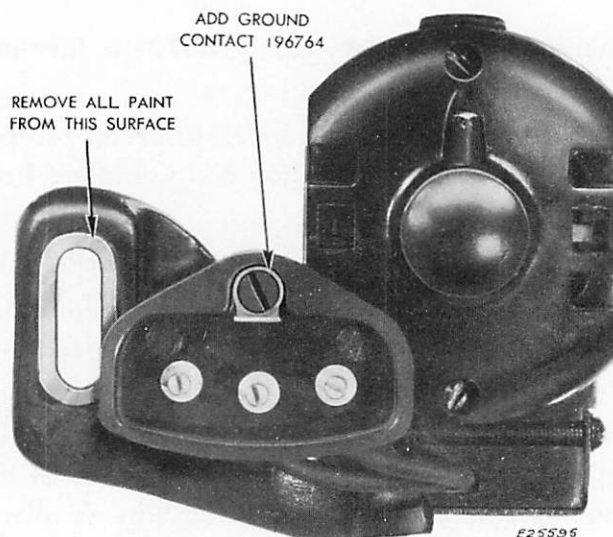

Fig. 1. Converting BA3-8 Motor to BA5-8 Motor
- 1-B-4-b. Remove film of paint from raised oval face (boss) around motor mounting screw slot on motor bracket, see Fig. 1, using emery cloth with light pressure strokes. Be sure to remove all paint from this boss to secure a good ground connection.